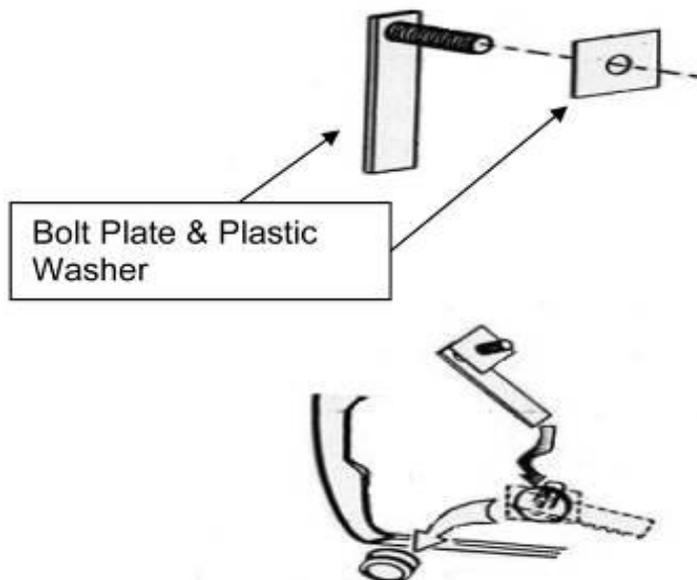

Figure 2. Bolt Plate Shown
3. Remove existing plugs from rear inside body panel as shown (Fig. 2).
4. Attach plastic washer to bolt plate. Insert bolt plate as shown (Fig. 2).